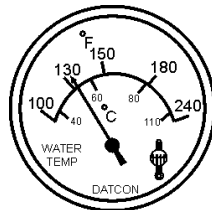

Figure 26. Coolant Temperature Gauge
10. The water temperature gauge (Figure 26) will indicate the coolant temperature. Under normal operating conditions the coolant temperature is between 165 and 215 degrees Fahrenheit.